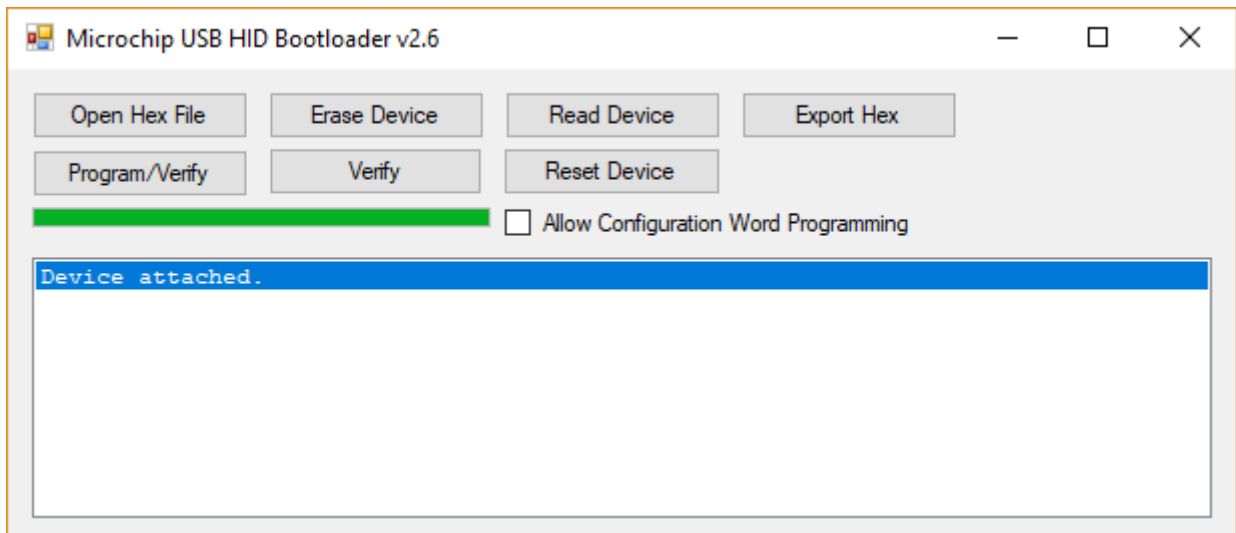

Figure 4 – Bootloader Software Screen
- A new window will open connecting the board to the USB bootloader software (Figure 4)